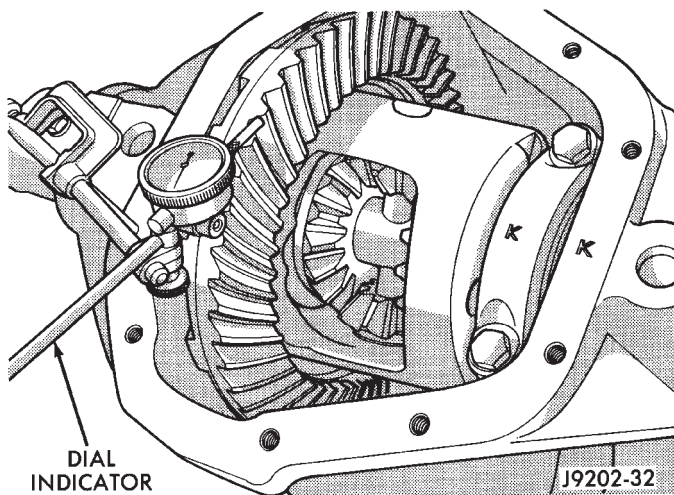
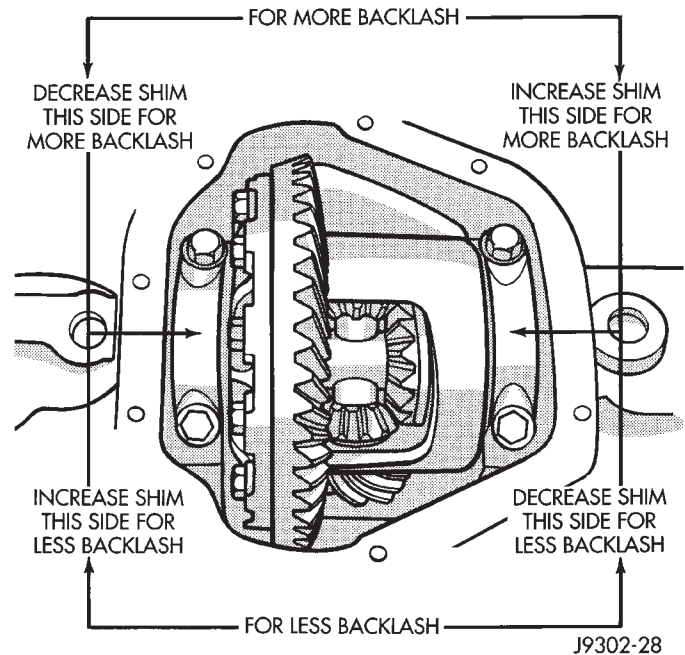

Fig. 89 Ring Gear Backlash Measurement
Fig. 90 Backlash Shim Adjustment
(33) Rotate the differential case several times to seat the side bearings.
(34) Position the indicator plunger against a ring gear tooth (Fig. 89).
(35) Push and hold ring gear upward while not allowing the pinion gear to rotate.
(36) Zero dial indicator face to pointer.
(37) Push and hold ring gear downward while not allowing the pinion gear to rotate. Dial indicator reading should be between 0.12 mm (0.005 in.) and 0.20 mm (0.008 in.). If backlash is not within specifications transfer the necessary amount of shim thickness from one side of the differential housing to the other (Fig. 90).
(38) Verify differential case and ring gear runout by measuring ring to pinion gear backlash at several locations around the ring gear. Readings should not vary more than 0.05 mm (0.002 in.). If readings vary more than specified, the ring gear or the differential case is defective.